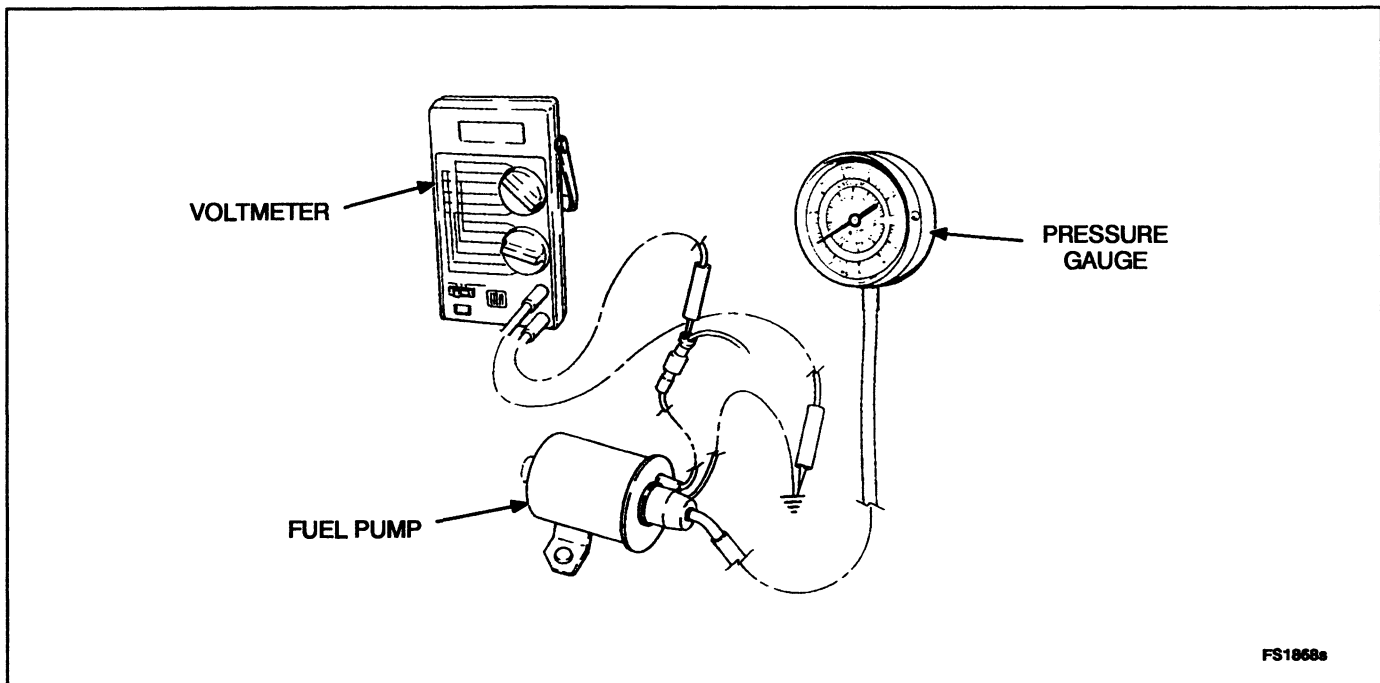

FIGURE 5-9. FUEL PUMP TEST
2. Check the the starting battery voltage when cranking and running the power unit. Measure battery voltage between the brown lead and ground (Figure 5-9). The pump will not work properly if the cranking or running voltage is less than 6 VDC. If the battery voltage is low, charge the battery(ies) and retest.